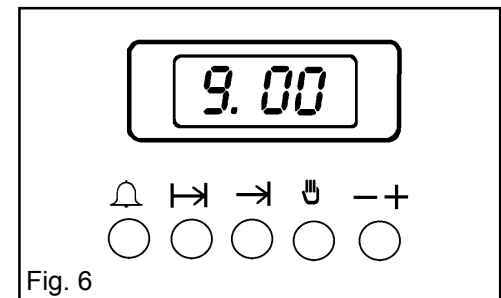

Fig. 6
- i) Ensure the electricity supply is switched ON and that the correct time of day is displayed, e.g. 9. a.m. as Fig. 6.